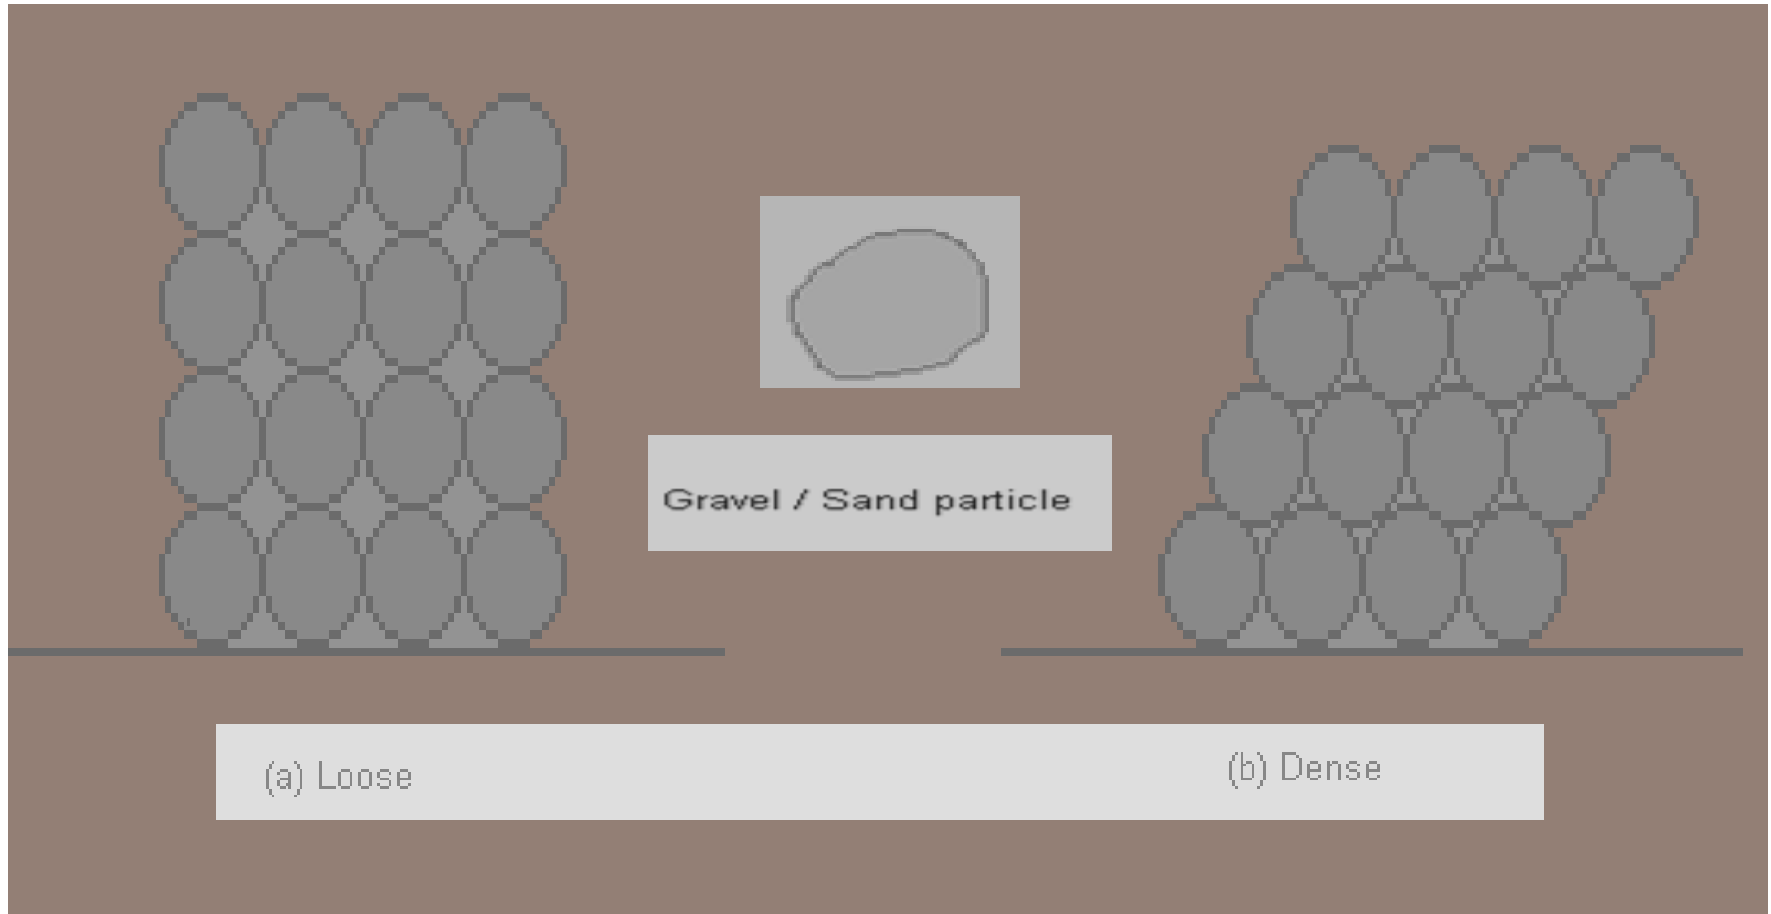

Figure 1: Granular Soil structure
- Cohesion-less soil (Coarse-Grained and Silt > 0.01 mm) tend to form a single –grained structure which may be loose or dense (Figure 1).